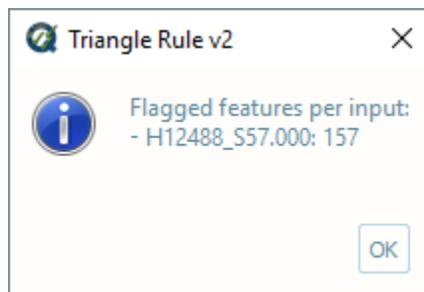

Fig. 2.49: Triangle rule's output message.
- After executing, the output window opens automatically, and the results are shown by textbox (Fig. 2.49).